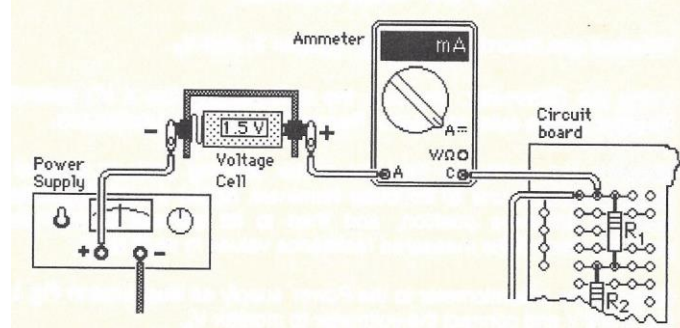

Figure 3
11. Connect a 1.5 V voltage cell in series with the Power Supply and resistors; first in series-aiding, then in series-opposing, (see Figure 3). In each case carefully note the indicated current level